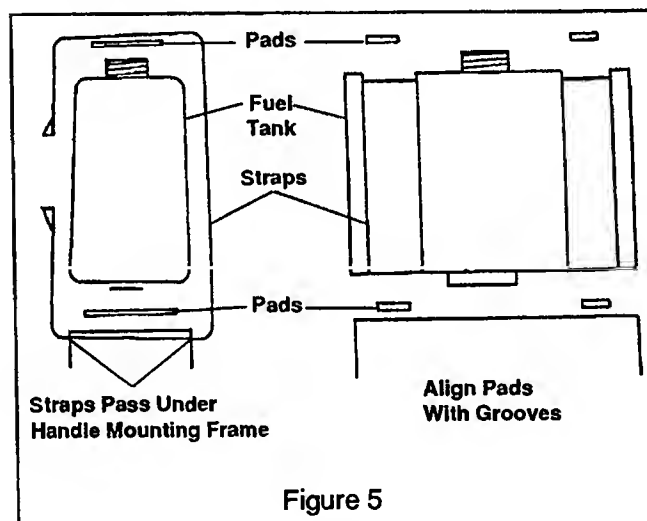

Figure 5
8. Attach fuel tank (See figure 5) as follows:
- c) Position the tank so the SCAG logo is forward. Place the straps around the tank going under the handle mounting frame, secure the strap together in front using (2) two 1/4-20 x 2" slotted machine screws and hex nuts. Tighten screws until the tank will not slide around. Over tightening will damage the tank or straps.